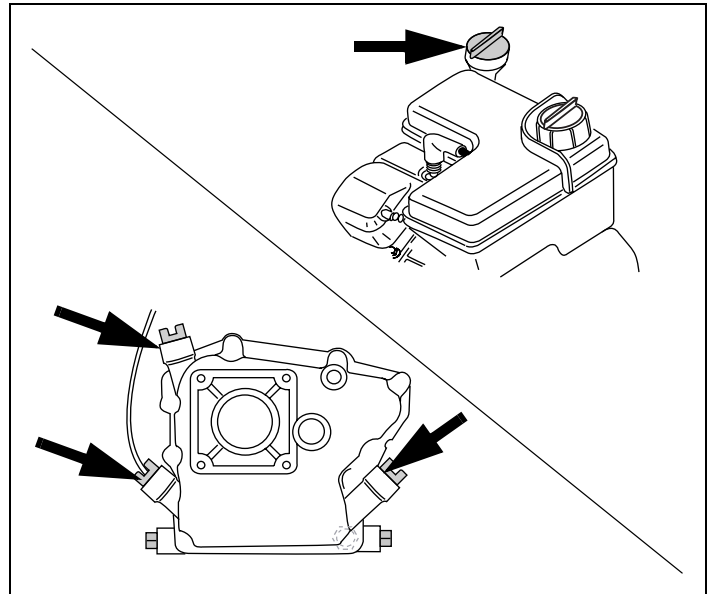

Figure 21. Possible Oil Fill Locations
10. Fill with recommended oil. See Table 1 on page 3 and “III. Oil and Fuel Specifications” instructions on page 4. See Figure 21. Afterward, continue reading instructions below.